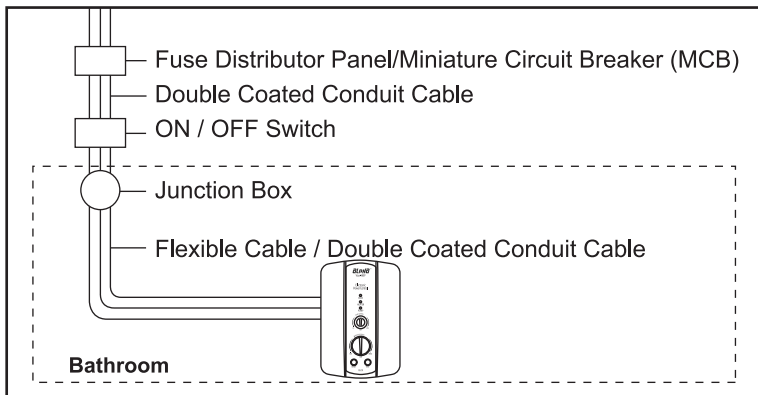

Fig. 3 - General Wiring Layout
- d. All wiring MUST confirm to local regulations. If in doubt, always consult a qualified electrician. A typical connection is shown in Fig. 3.
- d. Semua pasangan elektrik mesti mematuhi peraturan tempatan. Jika ragu-ragu, dapatkan nasihat ahli elektrik bertauliah. Sila lihat contoh pemasangan di Fig. 3.